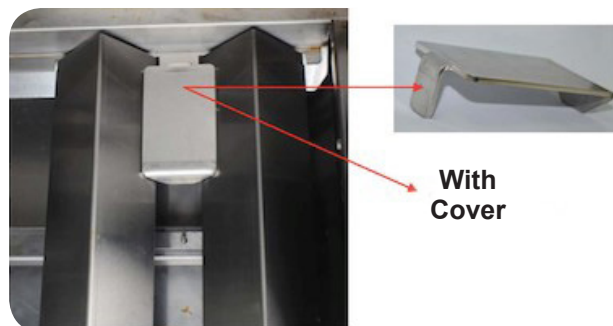

Fig. 8-2
3. Place the cover over burner, setting properly into the slots on the rear support as shown in Fig. 8-2.